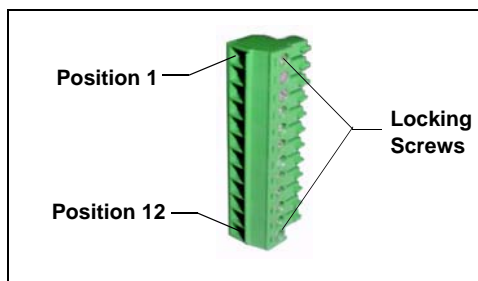

Figure 44. 12-Position Connector Plug
6. Locate the 12-position connector plug (P/N 923686) in the ICS-1500 Ship Kit (P/N 057905) (see Figure 44).